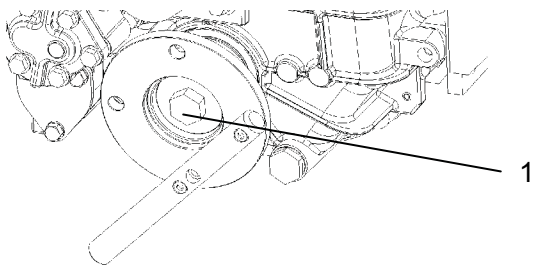

Fig.3-1
Unscrew Hex head bolt (Fig. 3-1, item1)